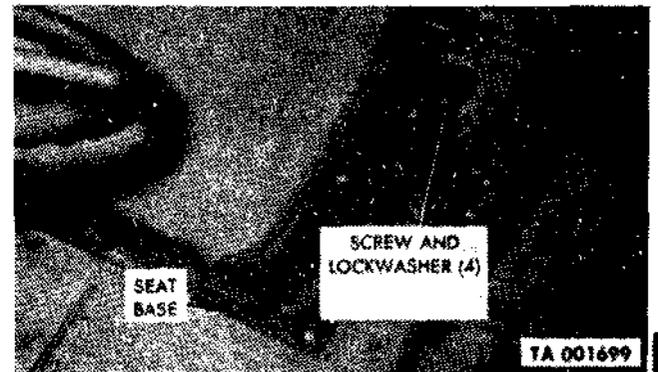

Figure 2-219.3. Driver's seat removal and installation.
a. Removal (fig. 2-219.3). Remove four screws securing seat base to cab floor and remove seat assembly from cab.
b. Installation (fig. 2-219.3). Position seat assembly in cab. Holes in seat base must be alined with holes in cab floor. Secure seat to cab floor with four screws and washers.